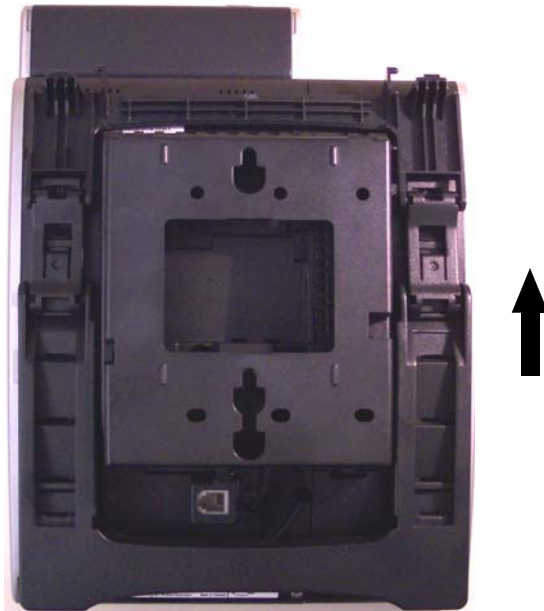

Figure 5-118 WM-L UNIT Installed
5. Push up on the WM-L UNIT until it snaps into place (refer to Figure 5-118 WM-L UNIT Installed).